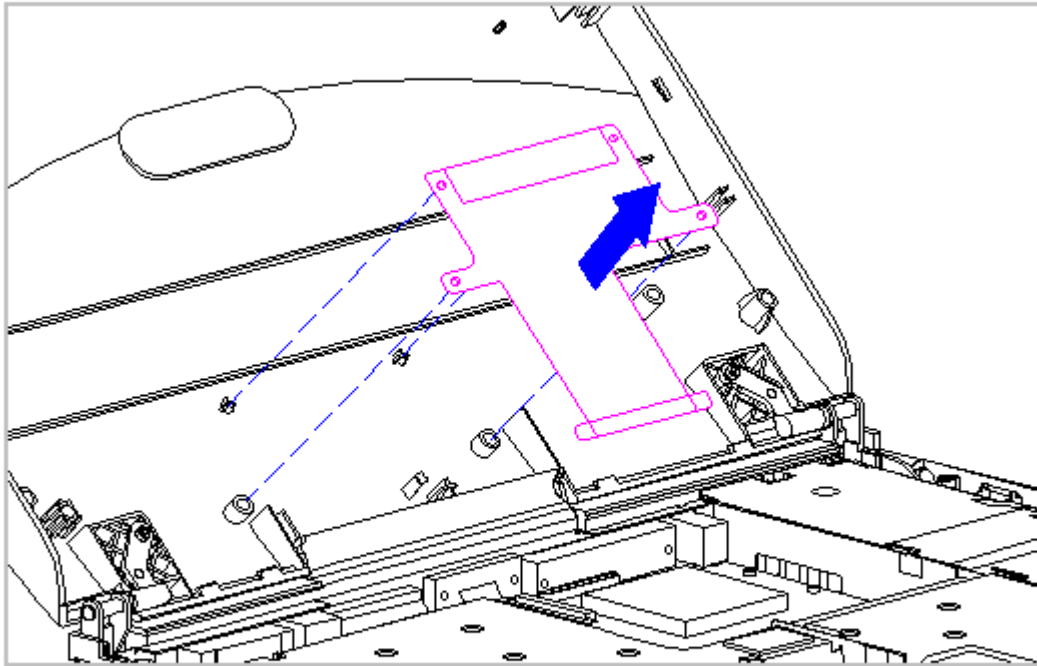

Figure 3-149. Removing the Display Ground Cable from the Display Enclosure
17. Lift the display ground cable out of the display enclosure (Figure 3-149).